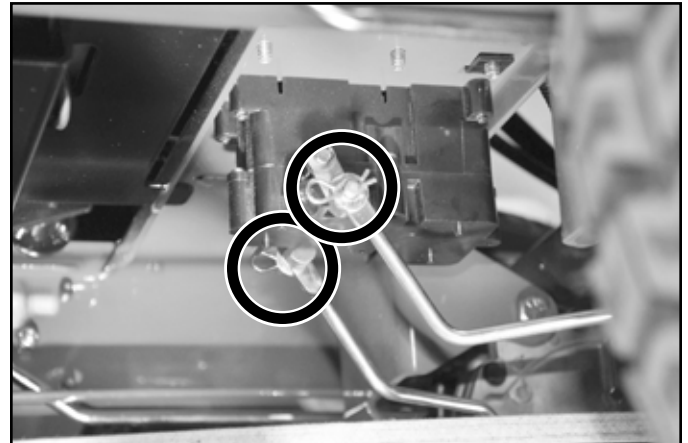

Fig. 160
6. Remove the (2) hairpins, (2) washers, and disconnect the (2) brake rods from the module (Fig. 160).